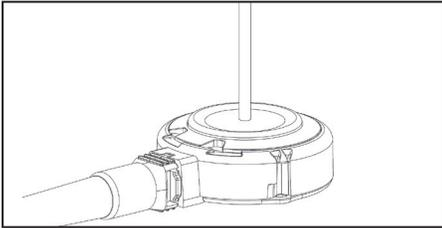

Figure 15. Needle and Access Port positioning
6. When adjusting band volume, the needle must be inserted perpendicular to the access port septum. (Figure 15). Failure to do so may cause damage to the access port and result in leaks.